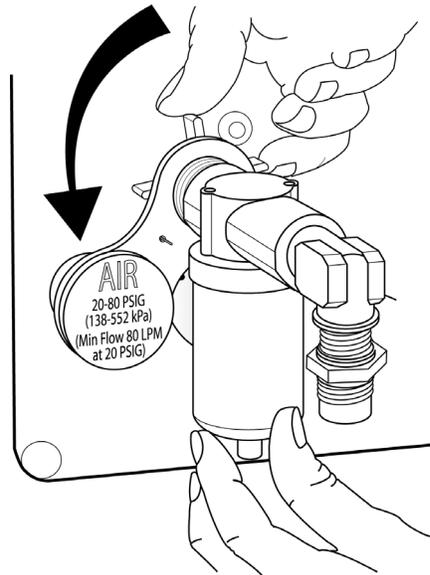

Figure 3.34
2. Tighten the threaded collar on the AVEA onto the male gas fitting of the "smart" connector assembly. (Fig. 3.34)